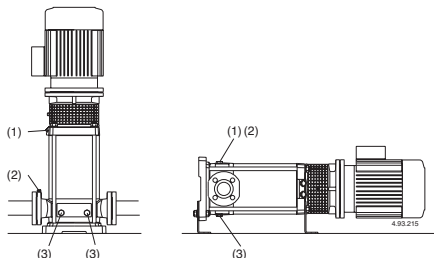
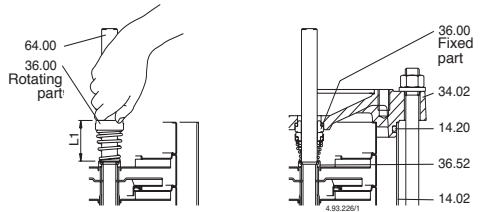

Fig.4 (1) Filling and air vent
Fig.5 Inserting the mechanical seal
When the pump is located above the water level (suction lift operation, **fig. 3A**) or with a positive suction head which is too low (less than 1 m) to open the non-return valve, fill the suction pipe and the pump through the priming hole (1) (**fig. 4**).
(2) Suction side air vent
(3) Draining
When the liquid level on the suction side is above the pump (inflow under positive suction head, **fig. 3B**), fill the pump by slowly and completely opening the inflow gate valve while keeping the delivery gate valve and air vent holes (1), (2) (**fig.4**) open to release the air.
Close the air vent holes (1), (2) (**fig.4**), for MXV-B, MXV(L) 25-32-40 e MXV(L)4 25-32-40 Tighten the needle screw (14.17) in the drainage plug (14.12) (**fig. 4b**) and close the air vent hole (14.04).
suction pipe couplings are perfectly sealed and tighten the air vent plug (2) and the draining plugs (3) on the suction side (**fig.4**).
Or, after draining, perform the washing operation, inserting clean water (at least 40 litres) into the filling hole (1) on the delivery side and allowing it to come out of the draining hole (3) on the suction side (**fig.4**).
Before dismantling, disconnect the power cable from the terminal box, close the gate valves in the suction and delivery pipes and empty the pump casing (**fig. 4**). For dismantling and re-assembly refer to the section drawing (**section 14.**) and **figures 5, 6**.
Push the rotating part as far as the shoulder ring (36.52) on the shaft (64.00), without compressing the spring. Check the length before and after insertion and raise the rotating ring as far as the initial length (L1 in fig.5). In this way, correct compression of the spring will be ensured when the fixed part is mounted and after the shaft is locked in the coupling (L2 in fig.6b).